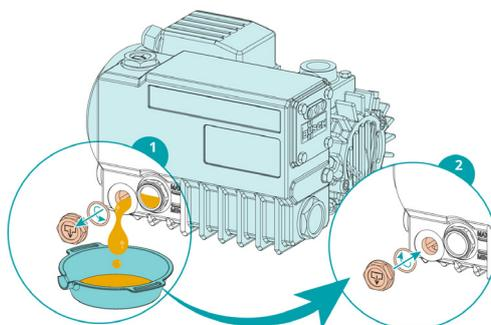

Fig. 32: Oil change illustration (source Busch Instruction no. R5 KB KC 0010-0016 E no. 0870169526)
2. Remove the oil from the pump - follow the graphical instruction presented in the Fig. 32.